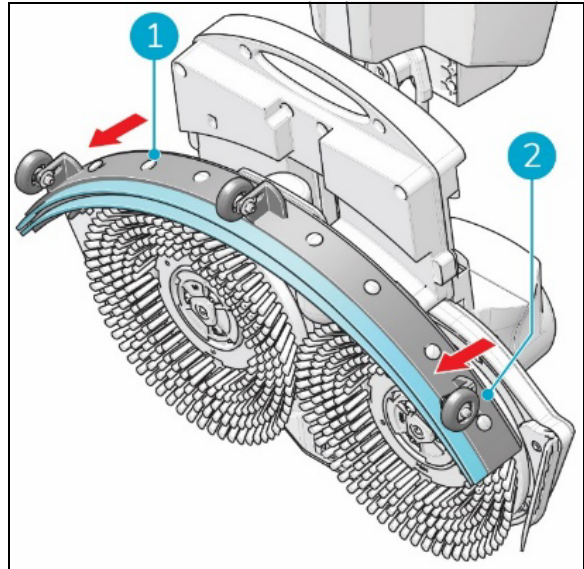

Figure 32
3. Pull on the left side of the squeegee to remove it (Figure 32, pos 1).
4. Pull on the right side of the squeegee to remove it (Figure 32, pos 2).